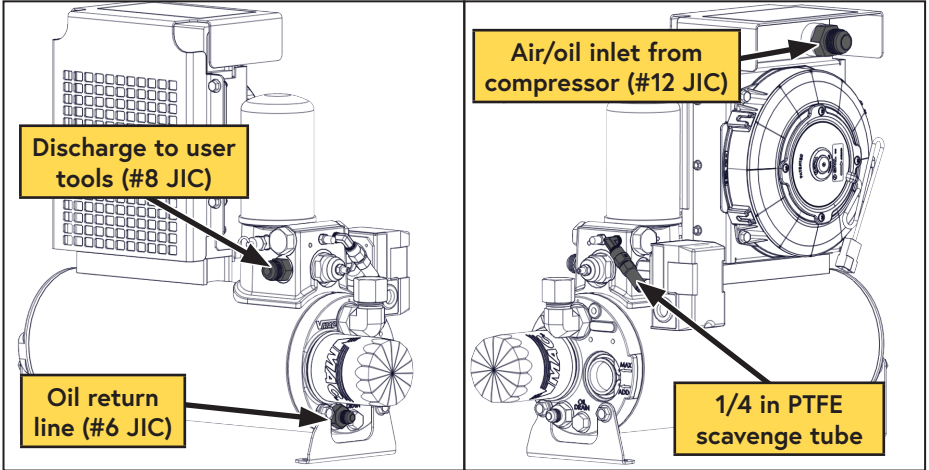

Figure 25 — WHASP Tank connections
- Connect the straight fitting on the 3/4 in hose to the #12 JIC fitting (air/oil inlet) on the cooler above the fan (Figure 25).
- Connect the 90° fitting on the 3/8 in hose to the #6 JIC fitting (oil return fitting) beneath the oil filter on the tank (Figure 25).
- Connect the 1/4 in PTFE tube to the 1/4 in push-to-connect (oil scavenge) fitting near the coalescing filter (Figure 25).